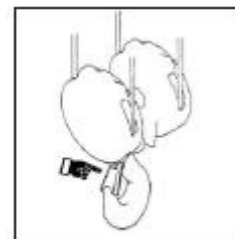

Fig. 7
- Check the functioning of the closing and opening movements of the safety latch moving it manually and with great attention (using appropriate personal protective equipment such as gloves etc...) to avoid the risk of being crushed (fig. 7).